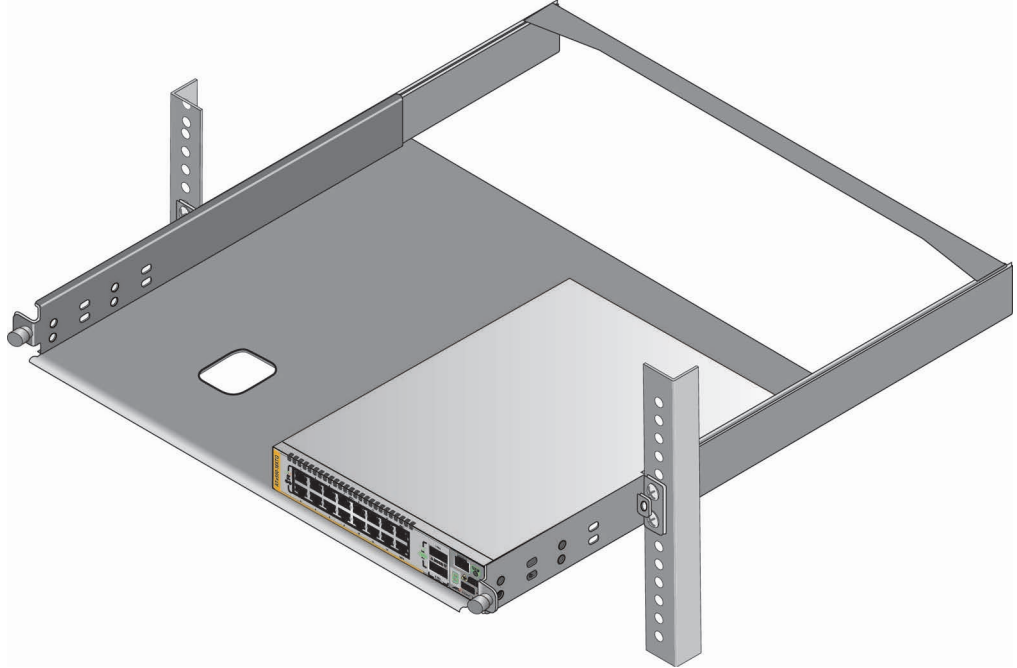

Figure 47. Placing a Switch in the AT-RKMT-J15 Bracket
7. Place the switch in the left or right side of the bracket, with its front panel facing the front of the bracket. If you are installing only one switch, you can install it on either the left or right side. Refer to Figure 47 on page 101.